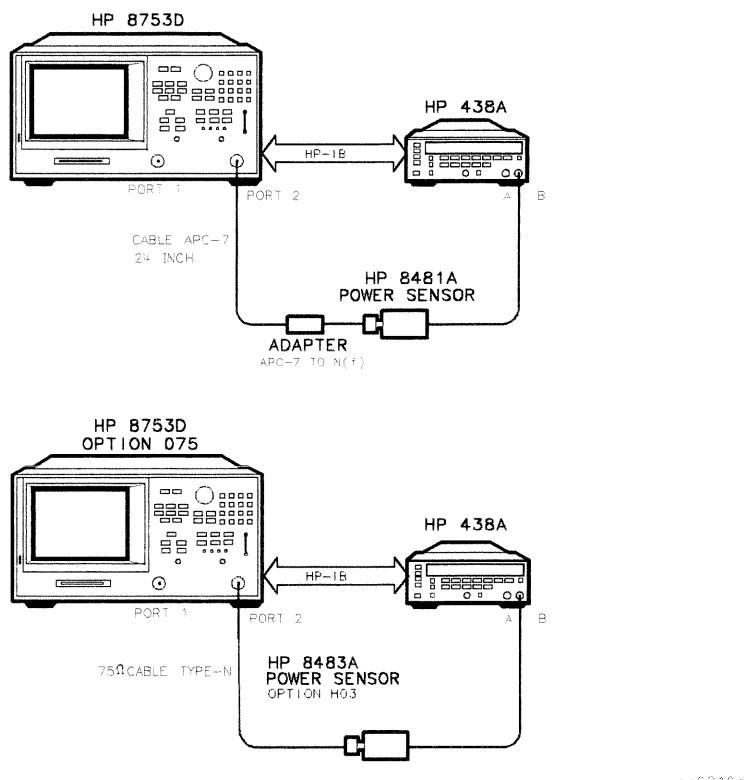

Figure 2-27. Setup for Power Meter Calibration on Test Port 2
32. Connect the equipment as shown in Figure 2-27.